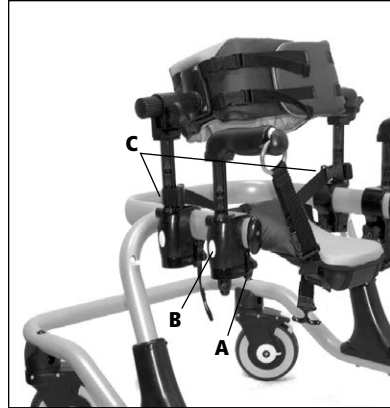

Figure 15
The **Hip Positioner** is designed to encourage forward leaning. Install this accessory with its two clamps and Handholds at the back of the top bar as shown in Figure 15. Refer to the warning for important safety information.
- Attach rings to handholds as in Figure 15.
See Figures 15 and 16
Users are usually more comfortable when the rear of the Hip Positioner is substantially lower than the front, as shown in Figures 15 and 16.